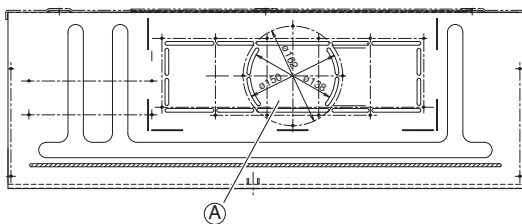

Fig. 3-21
- (4) If the system requires fresh air to be drawn into the unit, cut and remove the insulation (both externally and internally) at the location shown as (A) in Fig. 3-21.